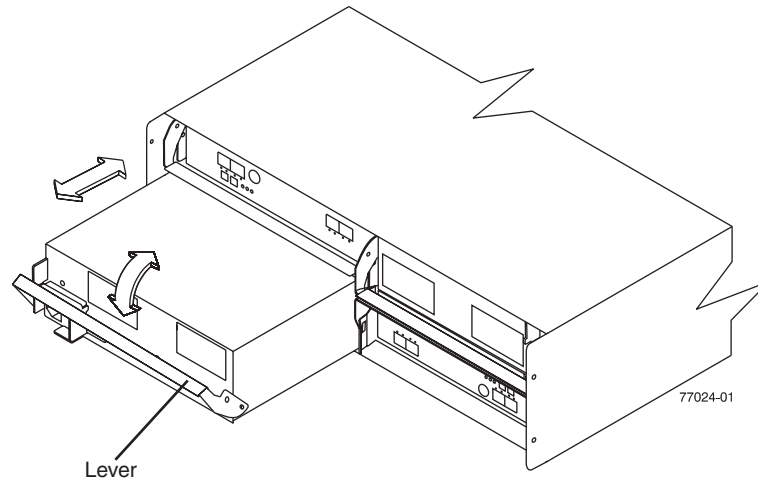

Figure 15. Removing a power supply and fan unit
2. Slowly pull the lever away from the chassis to remove the power supply and fan unit, as shown in Figure 15.